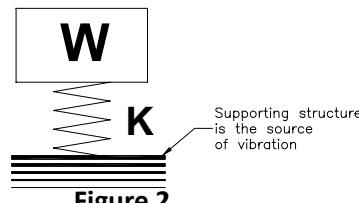

Figure 2
**2. Motion excitation:** The isolator is used to protect the supported mass from disturbances of the supporting structure (see Figure 2). An example is the use of mounts under a coordinate measuring machine.